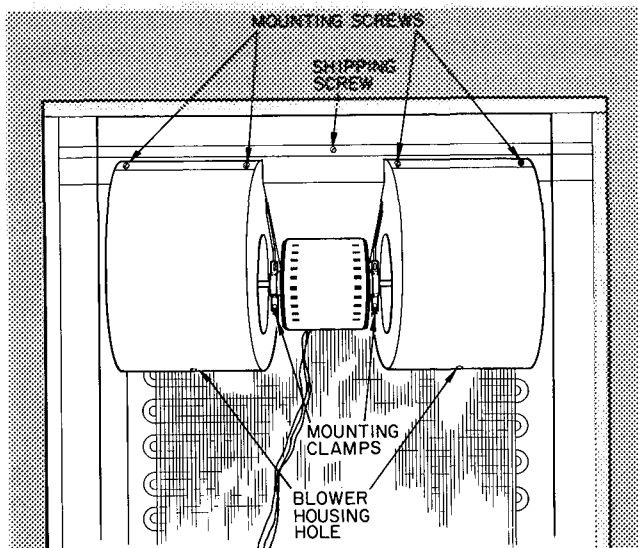

Fig. 5 — Rear Access Panel Removed
2. Loosen and remove 3 screws holding the rear access panel in place and remove the rear access panel from the unit. See Fig. 5.